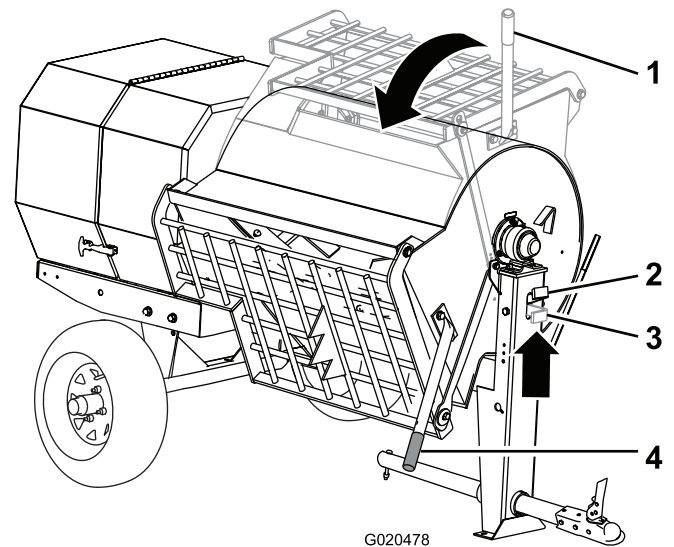

Figure 33
2. Grasp the dump handle with your left hand (Figure 33).
3. Lift the handle of the drum latch (Figure 33).
4. With both hands on the dump handle, rotate it counterclockwise to discharge the contents of the drum (Figure 33).
5. Rotate the dump handle **clockwise** until the drum latch locks the drum in the upright position (Figure 33).